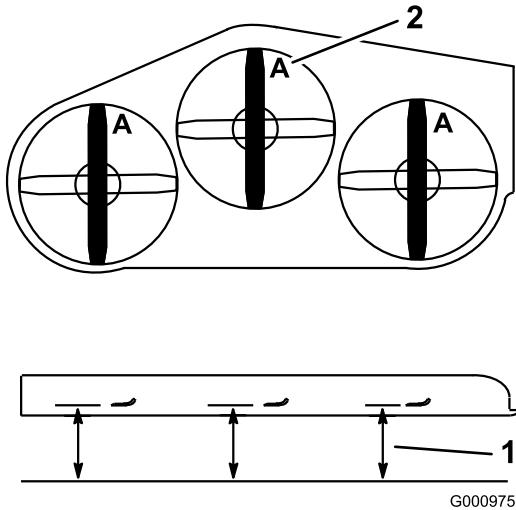

Figure 93
4. Measure from a level surface to the cutting edge, position **A**, of the blades (Figure 93).